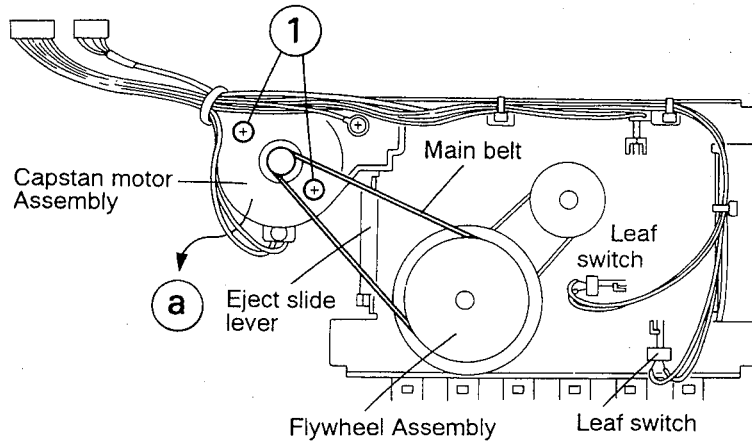

Fig. 2 - 24
■ **Capstan motor (Fig. 2 - 24)**
5. Remove two screws(1) retaining the capstan motor assembly from the back of the cassette mechanism .